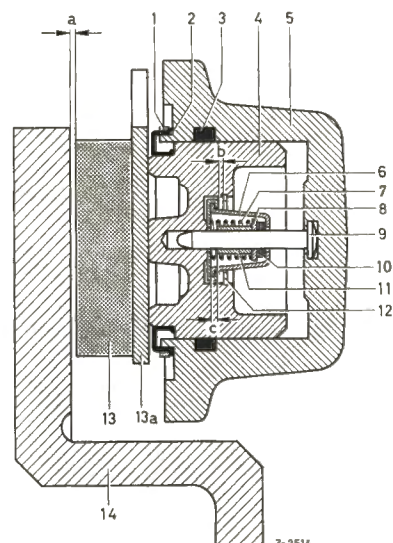

Fig. 42-12/24
3. Detach the connecting line (12) from the brake caliper.
4. Remove the clamp ring (1) and the dust cap (2) from the pressure cylinder (5) and the piston (4) (Fig. 42-12/24).